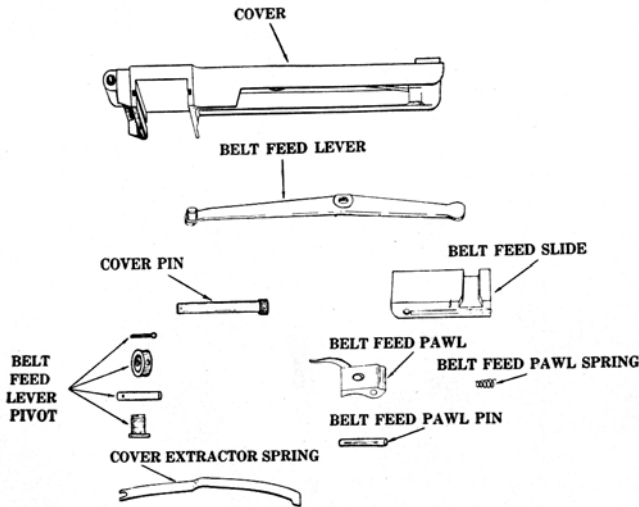

FIGURE 8. — Feed group.
■18. DETAILED DISASSEMBLING OF COVER (fig. 8).